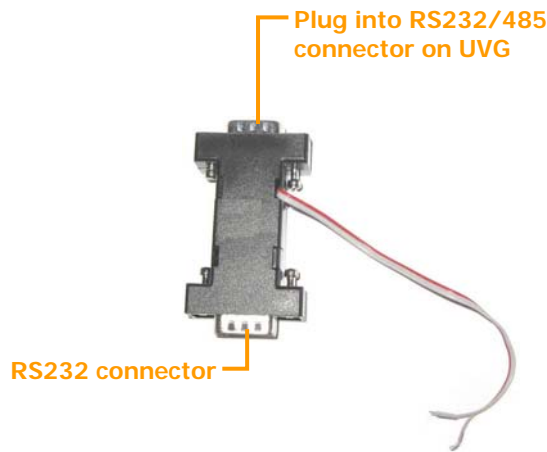

Figure 9: RS232/485 adapter
- A BNC male connector to connect to the **TV Out** connector of the UVG400. (A cable with an RCA connector can be used by attaching a BNC-to-RCA adaptor to the connector. See figure 9, page 10.)